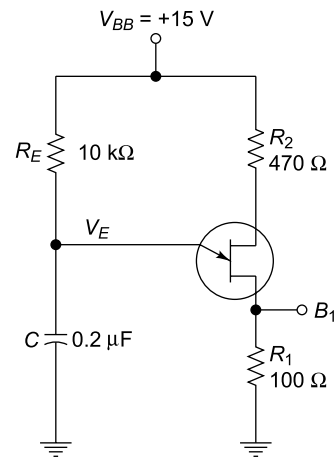

Fig. 3.33 *Relaxation oscillator*
- (b) The *relaxation oscillator* is an oscillator using UJT which can generate sawtooth waveform. The UJT relaxation oscillators store energy in a capacitor and then dissipate that energy repeatedly to set-up the oscillations. For example, the capacitor can be charged toward a positive power supply until it reaches a threshold voltage sufficiently close to the supply. When the capacitor reaches each threshold, capacitor can be quickly discharged due to short. In all such capacitor-based relaxation oscillators, the period of the oscillations is set by the dissipation rate(s) of the capacitor. The UJT relaxation oscillators consist of a UJT, capacitor C which is charged through resistance R_E . Figure 3.33 shows the UJT relaxation oscillator.